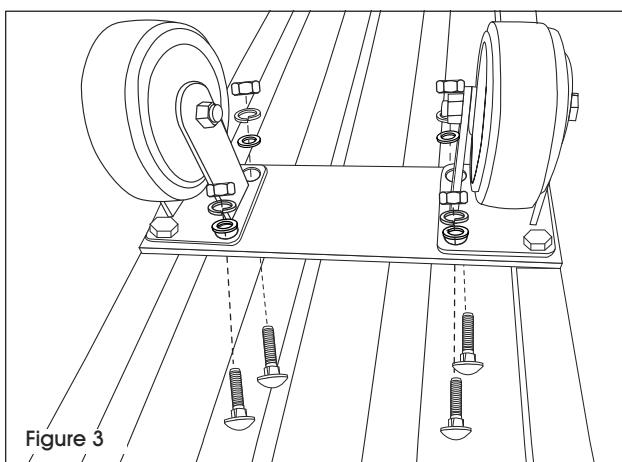

Figure 3
3. Use large carriage bolts, large washers, large lock washers and large nuts to finish mounting the large center casters. Insert bolts from underneath channel, up through the caster plate. (See Figure 3)